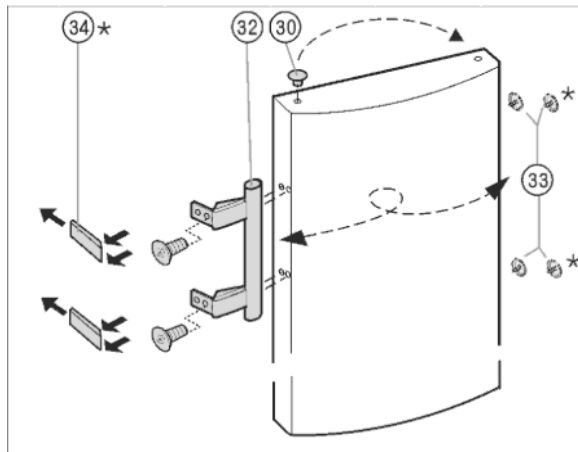

Fig. 8
- ▶ Lift the stopper Fig. 8 (30) out of the door bearing bush and transfer it.
- ▶ Dismantle the door handle Fig. 8 (32), stoppers Fig. 8 (33) and pressure plates* Fig. 8 (34) and transfer to the opposite side.